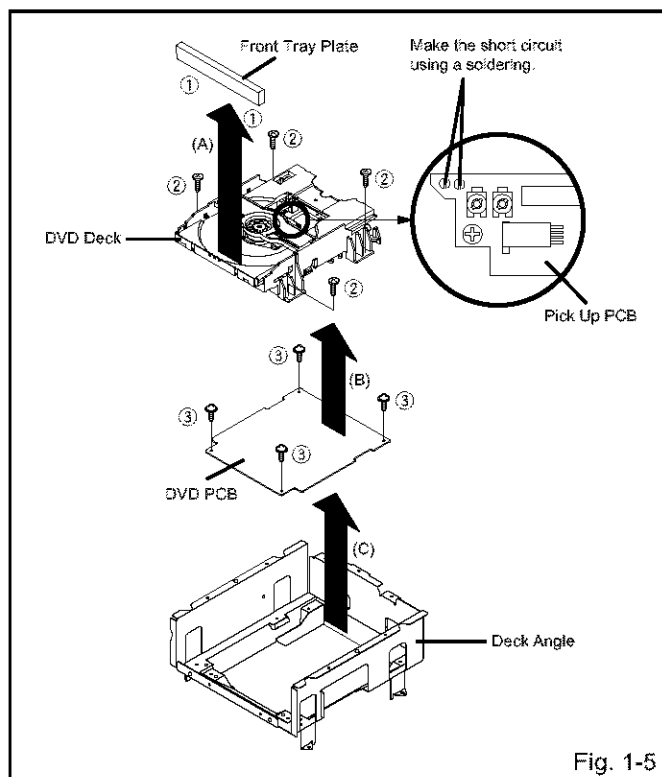

Fig. 1-5
1-5: DVD PCB/DVD DECK (Refer to Fig. 1-5)
1. Make the short circuit on the position as shown Fig. 1-5 using a soldering. If you remove the DVD Deck with no soldering, the Laser may be damaged.
2. Unlock the 2 supports ①.
3. Remove the Front Tray Plate in the direction of arrow (A).